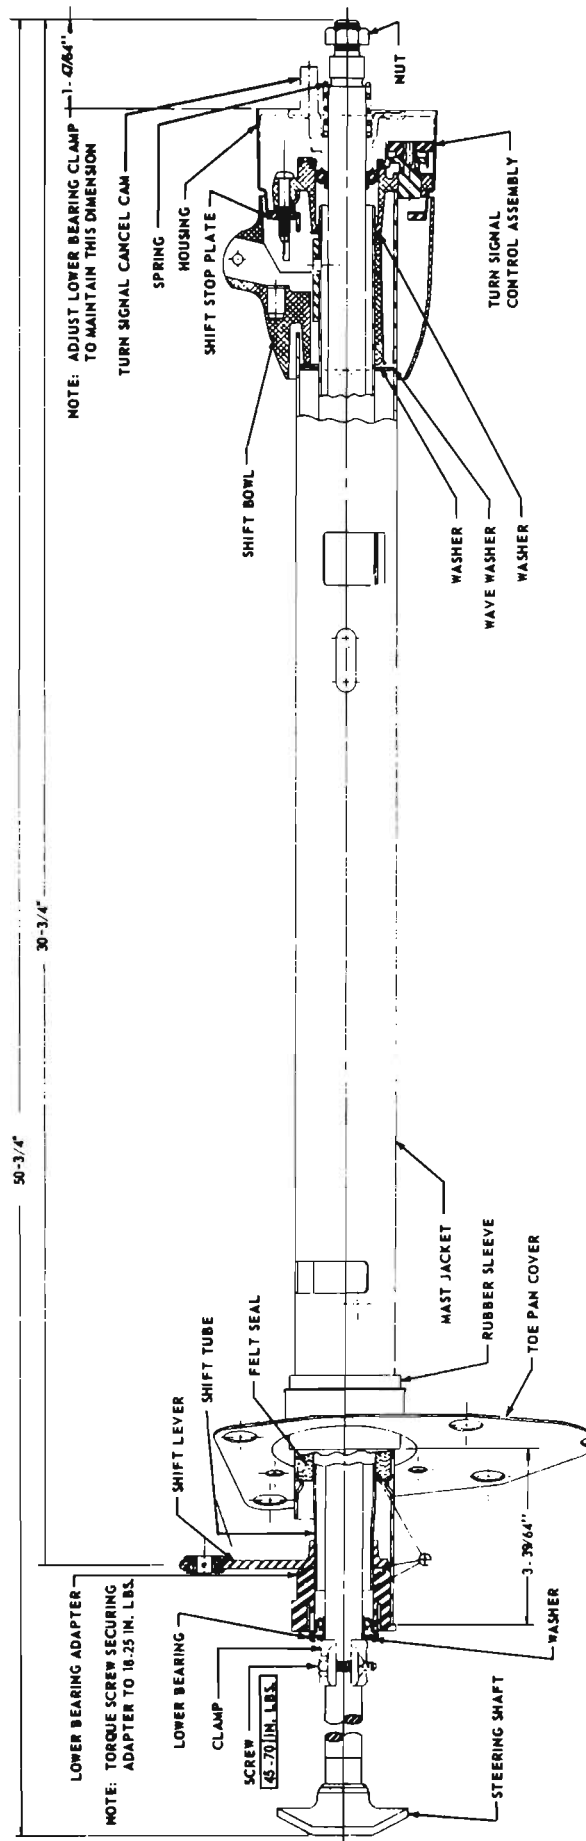

Figure 8-76—Mast Jacket and Transmission Control Shaft Assembly - Automatic Transmission
**NOTE:** To facilitate reassembly of upper portion of mast jacket, align screw holes (3) of bearing adapter, cover and shift stop plate prior to reassembly. It will be necessary to hold the shift stop plate in position by inserting a thin bladed tool behind the shift stop plate. Insert the tool in the opening at the bottom of the shift bowl.
**NOTE:** If the clamp on the steering shaft was loosened or removed, readjust dimension of upper end of shaft to cover as shown in Figure 8-76.